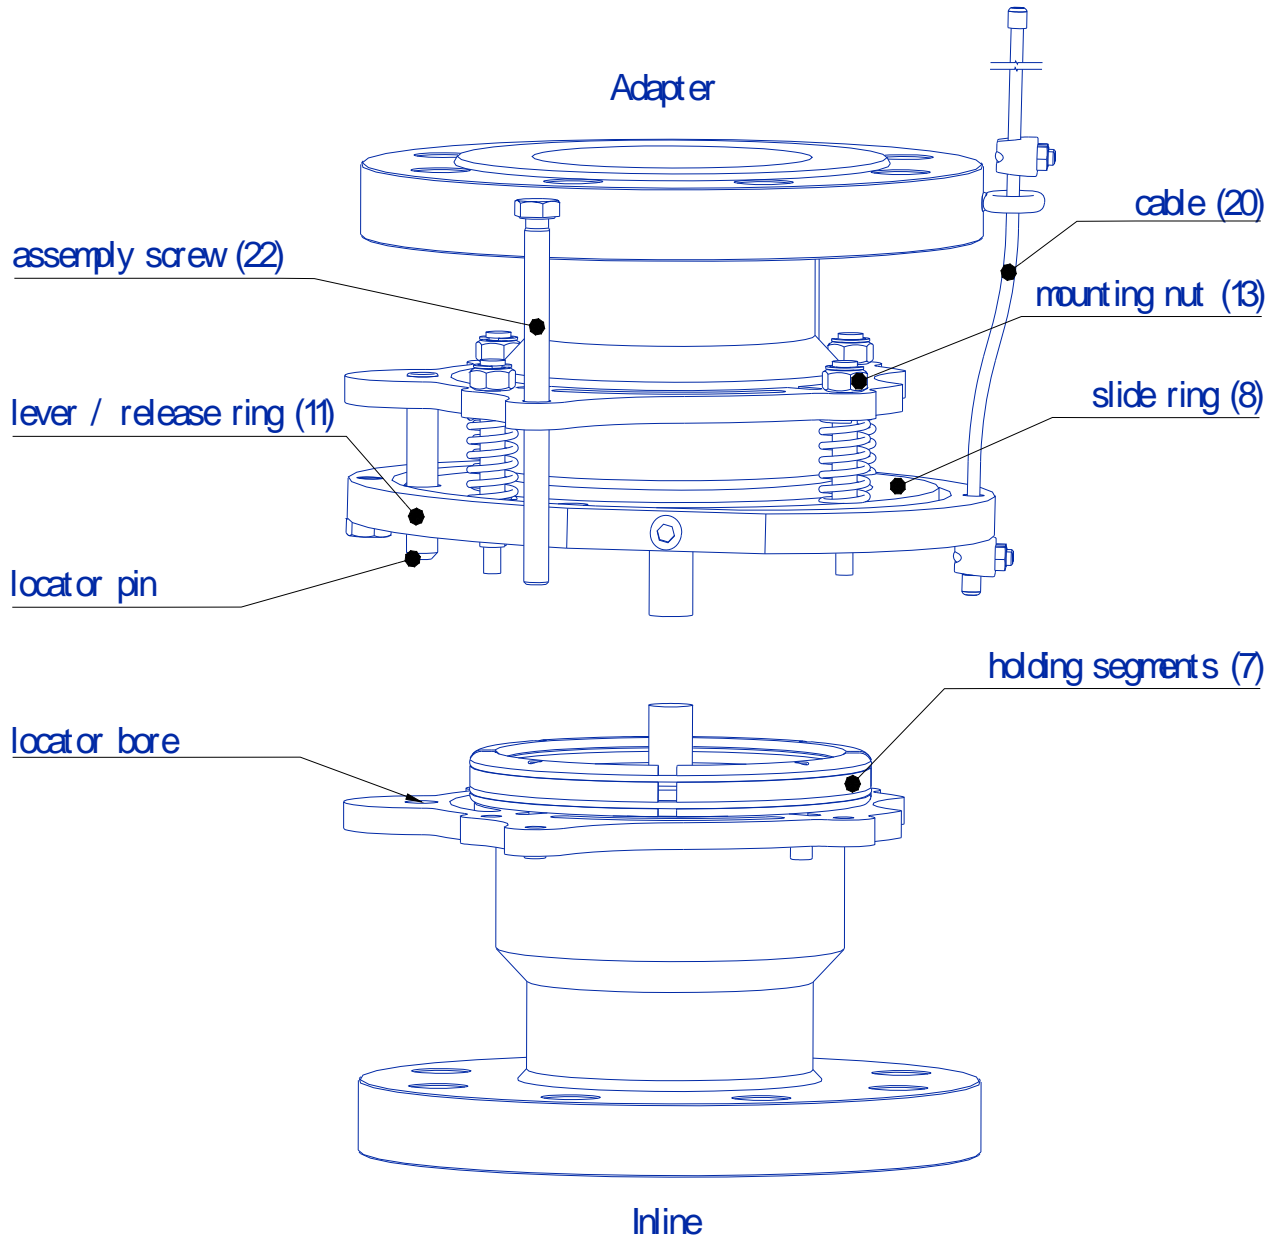
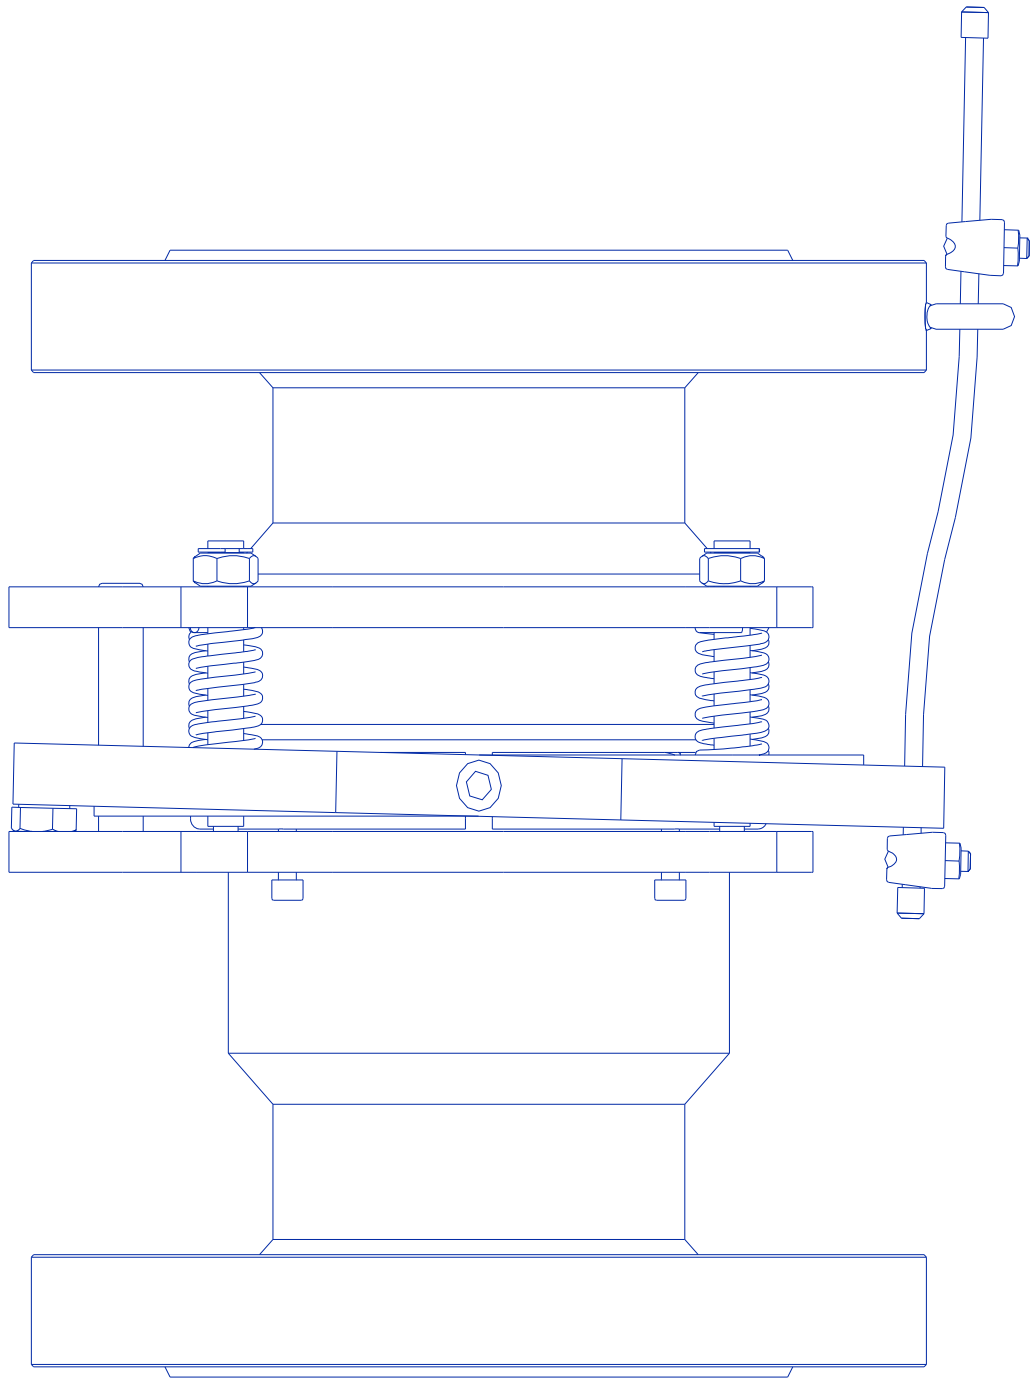

Fig.6
Fig.7
3. Inspect O-ring 18 (Fig.2) at the separation side for mechanical damage and grease with Teflon lubricant: the O-rings, segments 7 on the inside (Fig.6) and sliding ring 8 (Fig6) on the outside.
4. Using the assembly nuts 13 (Fig.6), evenly lower the sliding ring 4 (Fig.6) all the way down onto the adaptor (Fig. 7).
6. Lever 11 (Fig.6) should be in the shown position Fig.5.
7. Use the assembly screws (22) to tighten adaptor and inline until the holding segments slide into position and the coupler allows for a split free reassembly.
8. Evenly loosen the assembly nuts 13 (Fig.7). During this procedure the sliding ring 8 (Fig.6) should come to rest on the holding segments and lever / release ring (11) should be in the position as shown in Fig 5.
11. Fig. 7 shows the completely assembled NTS-SZ in a ready-to-use status.